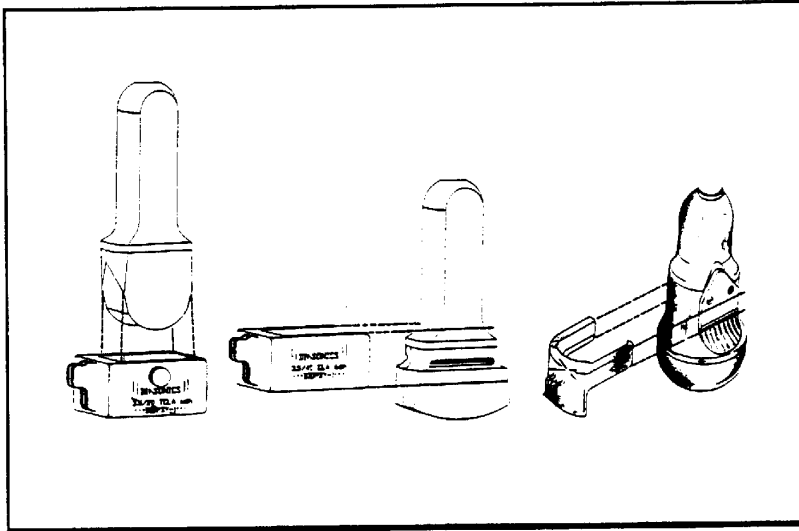

Figure 2. Attaching the Biopsy Brackets to various Probes
- For Type-I End-Slide, slide the Biopsy Bracket over the transducer from the head end until it locks into place as shown in **Figure 2** below.
- For Type-II Side-Slide, slide the Biopsy Bracket over the transducer from the side until it locks into place as shown in **Figure 2** above.